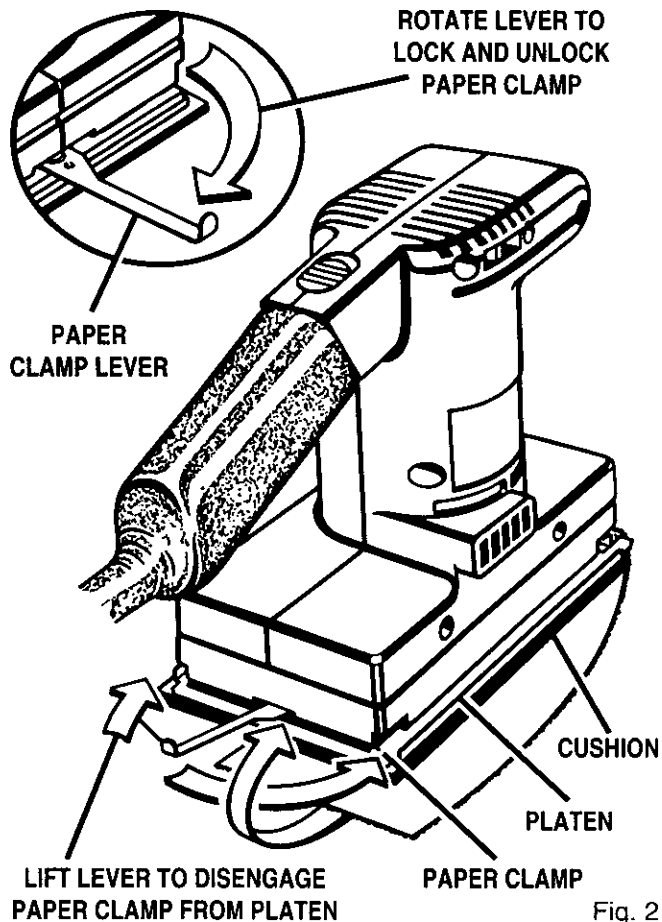

Fig. 2
See Figures 2 and 3.
See Figure 2.
- Release paper clamp by rotating lever out as shown in figure 2 and lifting up, disengaging it from the platen.